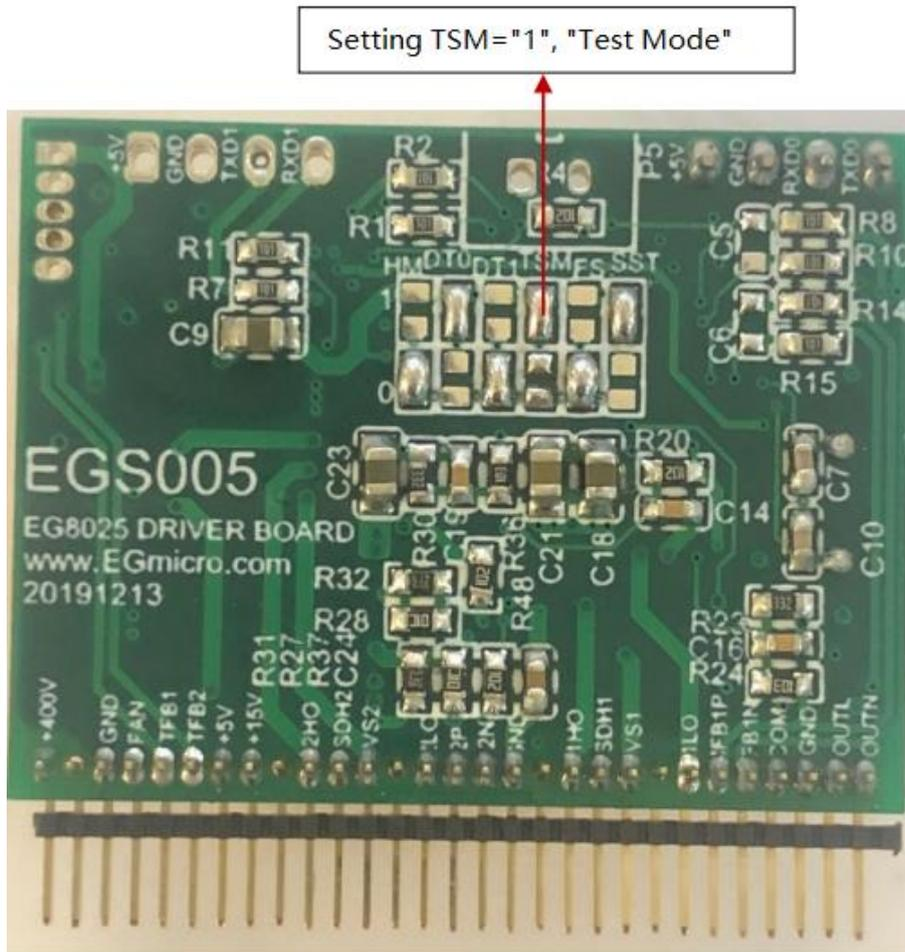

Figure 4-1b. Set EGS005 Driver Board to Test Mode
Step1: Set the jumper TSM= "1" as Figure 4-1b,that is, JP8 is short circuited,EG8025 enters test mode. In test mode,EG8025 outputs an open-loop SPWM signals, which means that there are no protection functions, and the voltage feedback and current feedback are invalid.